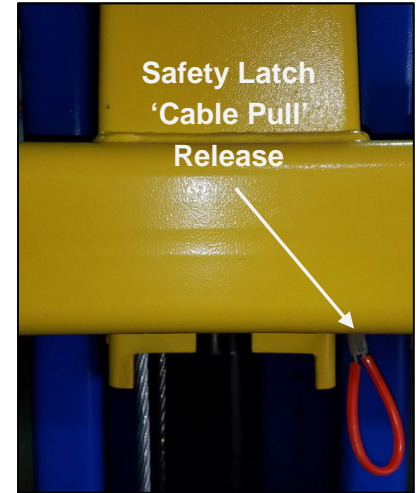

Fig. 20
2. To lower the lift, both carriage's safety latch releases must be manually pulled down to be released to lower lift (**Fig.20**). The latches will automatically reset once the lift ascends approximately 17" from base.